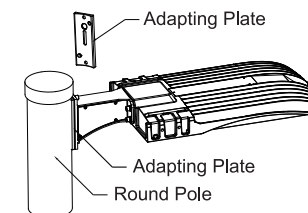

Figure 10
- Notice: Round pole should be with adapter plate (Figure 10).